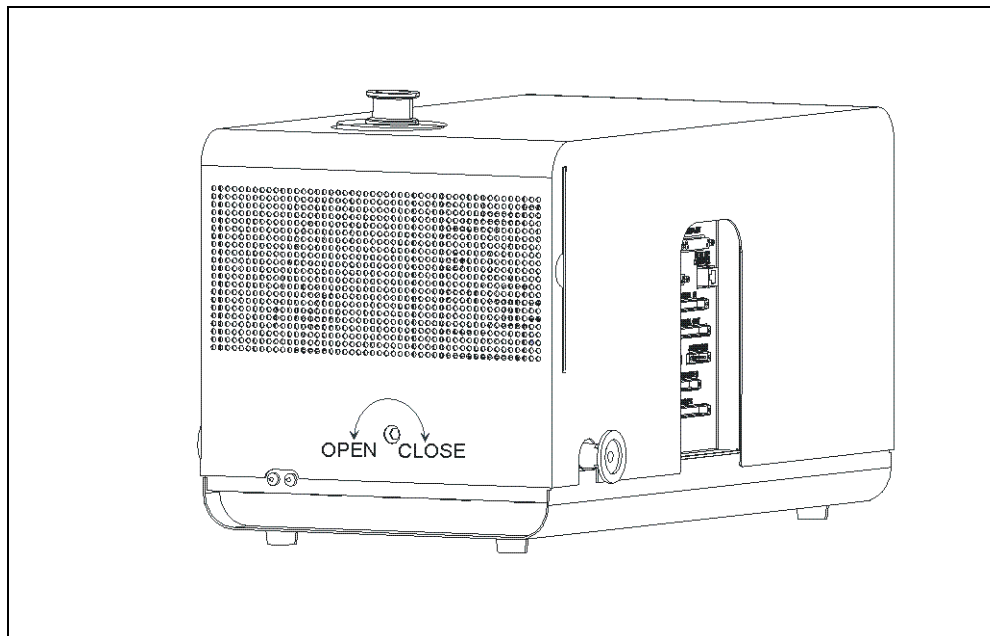

Fig. 7-2 Open the cover
- 3** Use the Allen wrench SW 8 mm and open the locks (ROTO-LOCK) on both sides of the device cover. Refer to Fig. 7-2.